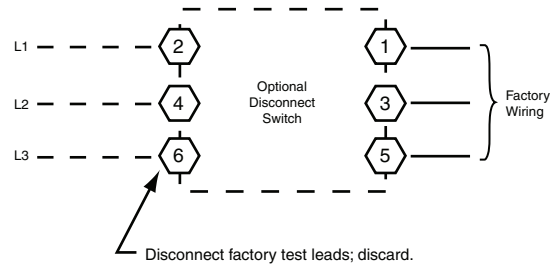

Fig. 18 — Power Wiring Connections
IFC (see wiring diagram label for control box component arrangement) or at factory-installed option non-fused disconnect switch. Max wire size is #2 AWG (copper only). See Fig. 18 and unit label diagram for field power wiring connections.
2. Install power lines to terminal connections as shown in Fig. 18.